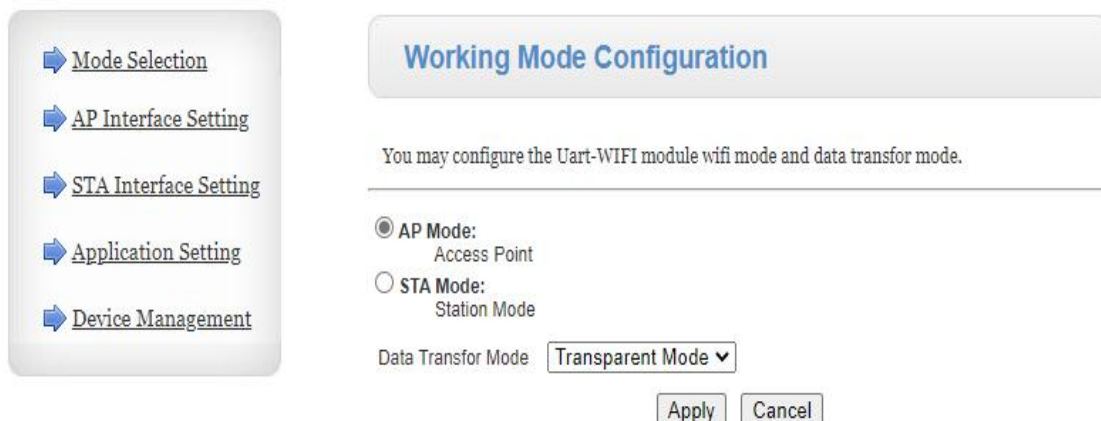

Figure 53
Step 2: Enter the user name: admin and password: admin and press Enter to enter the configuration interface of the web page, as shown in Figure 53 below.